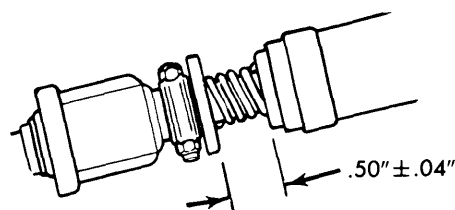

Fig. 17 Coupling-to-Steering Shaft Flange Adjustment for "C" and "K" Models
11) Install lock cylinder, and shaft lock cover. Install ignition switch, neutral start switch, and back-up light switch. Install lower wire protector over wires and on jacket. Install mounting bracket using ONLY correct length bolts. Install steering wheel. Check dimension as shown in Fig. 17, 18 and 19. To adjust, apply force on steering wheel end of steering shaft while loosening shaft clamp on pot joint bolt. Tighten when specified dimension is obtained.